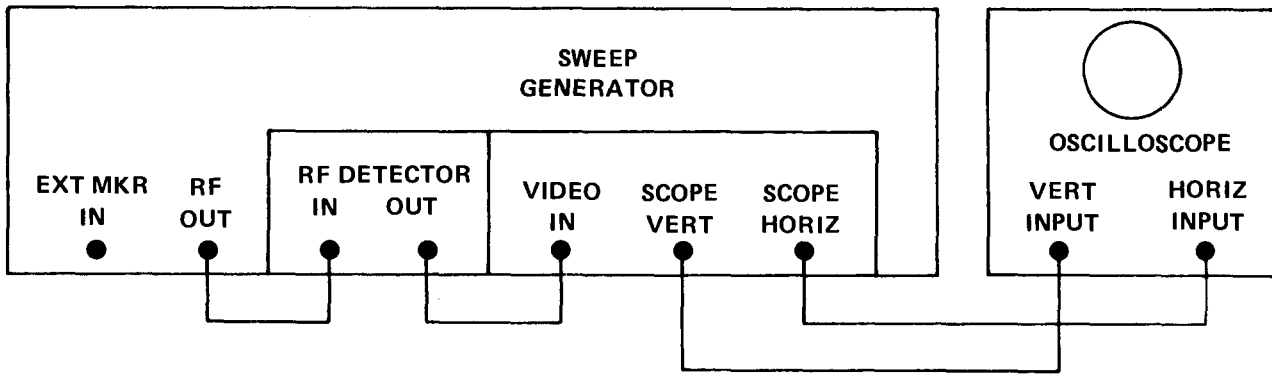

Figure 4-19. Adjustment Connections (Marker Circuit)
- b. Connect oscilloscope to sweep generator as shown in figure 4-19.